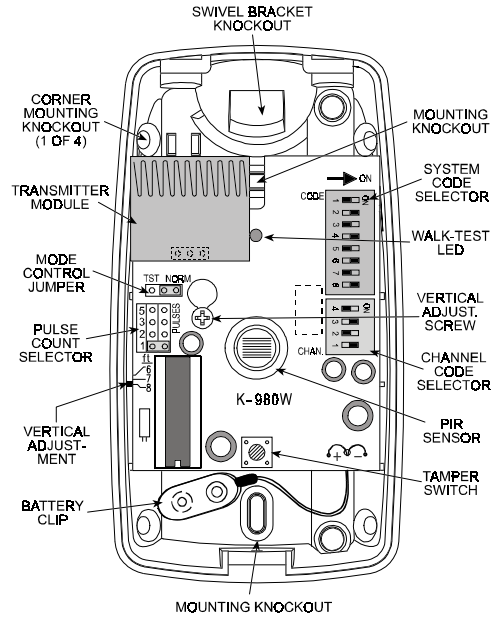

Figure 4. Inside View
- B. Loosen the vertical adjustment screw, slide the PCB down and remove it via the "keyhole" (see Figure 4).
- D. Refer to Figure 4 and punch out the mounting knockouts at the rear wall of the base (for surface mounting) or mounting